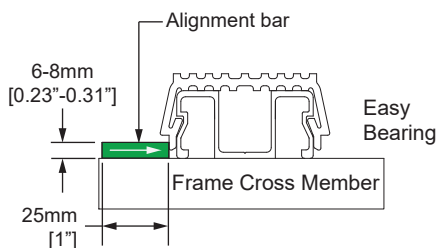

Figure 3
4. Once in place, align the NEXUS™ with the sub-deck and bearings using a 6-8mm [0.24"-0.31"] x 25mm [1"] straight bar placed on one side of the CENTRE sub-deck. The bar should extend past at least two (2) cross members on either side of the NEXUS™.
5. Make sure the bar is pushing the same direction against all bearings (on the sub-deck and on the NEXUS™) to ensure proper alignment (fig. 3). Clamp NEXUS™ in place.